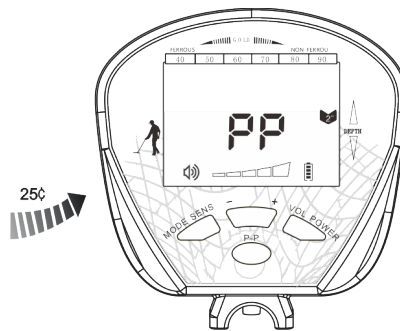

Fig.17
b) Take a 25¢ silver coin and let it approach the search coil slowly. At the position of about 7" to 8", the first set of signal strength cursor begins to appear, the sound becomes louder and the tone becomes higher. Continue to move the 25¢ silver coin, the signal strength cursor is fast full, the sound is more louder, and then the depth cursor indicates the depth down until only one is left, indicating that the metal is gradually approaching the center of the search coil. (See Fig.17)